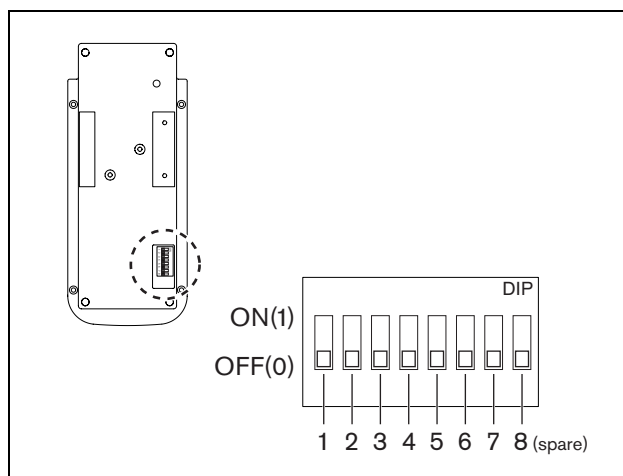

figure 4.2: DIP switches
Use the DIP switches at the bottom of the call station to set the chime, the momentary or latching speaking function, the speech filter and the microphone gain. See figure 4.2.
See figure 4.2. DIP switches number 1, 2 and 3 are used for setting the chime.
See figure 4.2. DIP switch number 4 is used for setting the momentary or latching speaking function.
See figure 4.2. DIP switch number 5 is used for setting the speech filter ON (1) of OFF (0).
See figure 4.2. DIP switches number 6 and 7 are used for setting the microphone gain.